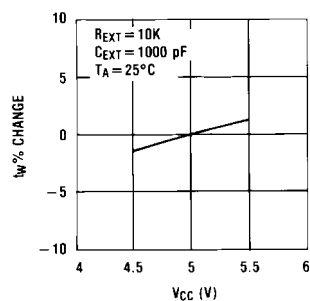
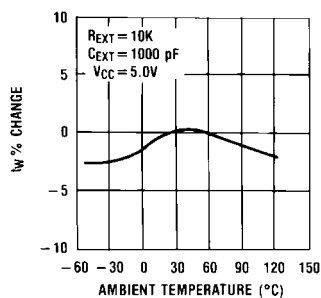

FIGURE 6.
FIGURE 7.
8. Output pulse width variation versus  $V_{CC}$  and temperatures: Figure 6 depicts the relationship between pulse width variation versus  $V_{CC}$ , and Figure 7 depicts pulse width variation versus temperatures.